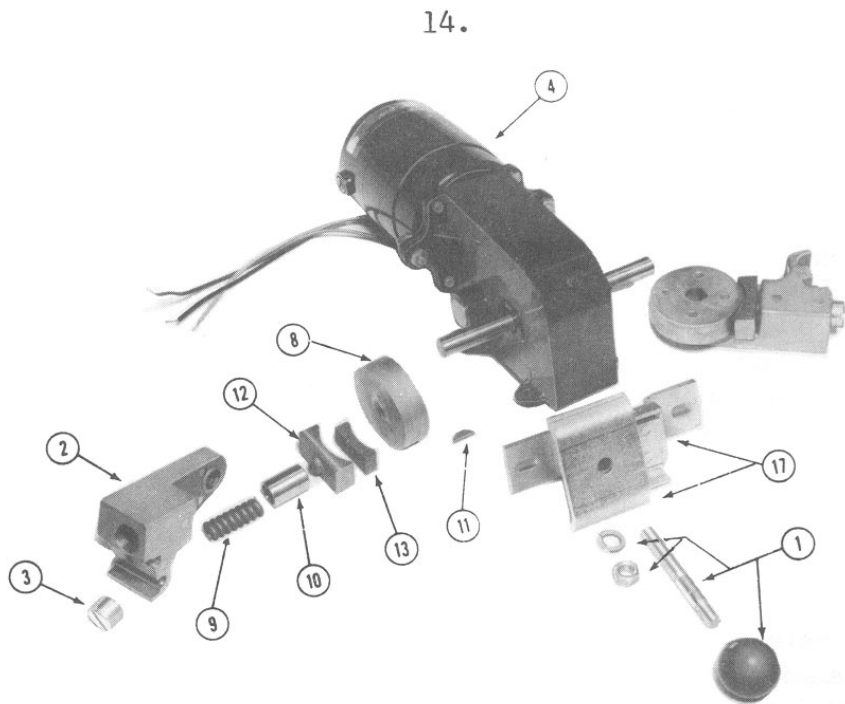

Figure 1. Operating Mechanism Parts.
The operating mechanism, pictured in Figure 1 (page 10), is used in Styles 2, 3 and T-200 transfer switches. The motor (4) is a universal type, reversible motor and is shipped as a complete component including the gearbox. The gearbox is a sealed unit, which should never require maintenance or attention. Because of the wide range of molded case switches used on Lake Shore Electric Transfer Switches, if motor replacement is necessary, please specify the serial number and model number of the transfer switch.